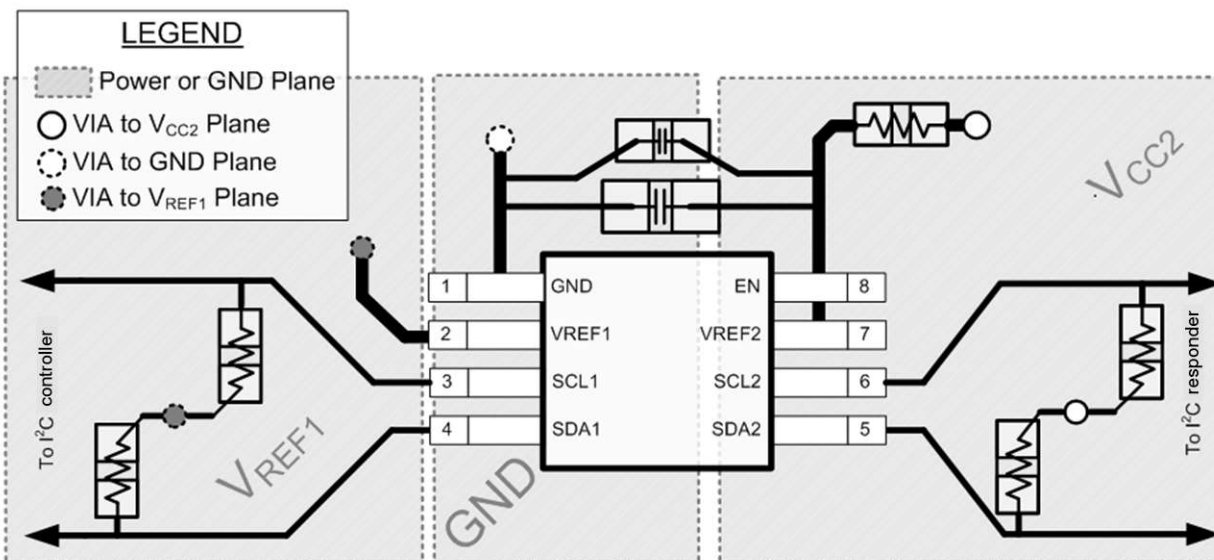

Figure 8-8. Layout Example
In all PCB layouts, it is a best practice to avoid right angles in signal traces, to fan out signal traces away from each other on leaving the vicinity of an integrated circuit (IC), and to use thicker trace widths to carry higher amounts of current that commonly pass through power and ground traces. The 100-pF filter capacitor should be placed as close to V_{REF2} as possible. A larger decoupling capacitor can also be used, but a longer time constant of two capacitors and the 200-k Ω resistor results in longer turnon and turnoff times for the TCA39306-Q1 device. These best practices are shown in Figure 8-8.
For the layout example provided in Figure 8-8, it would be possible to fabricate a PCB with only two layers by using the top layer for signal routing and the bottom layer as a split plane for power (V_{CC}) and ground (GND). However, a four-layer board is preferable for boards with higher-density signal routing. On a four-layer PCB, it is common to route signals on the top and bottom layer, dedicate one internal layer to a ground plane, and dedicate the other internal layer to a power plane. In a board layout using planes or split planes for power and ground, vias are placed directly next to the surface-mount component pad, which must attach to V_{CC} or GND, and the via is connected electrically to the internal layer or the other side of the board. Vias are also used when a signal trace must be routed to the opposite side of the board, but this technique is not demonstrated in Figure 8-8.